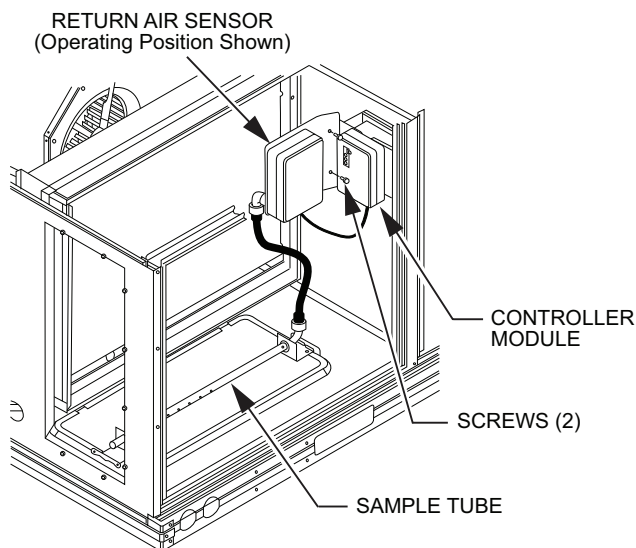

Fig. 55 — Return Air Sensor Operating Position
3. Rotate the detector plate so the sensor is facing outwards and the sampling tube connection is on the bottom. See Fig. 55.